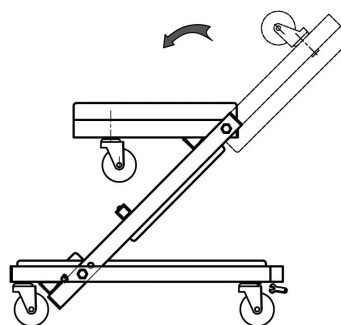

Figure 3 - Adjusting Creeper to seat configuration
1. Unlock the spring loaded Lock Pin by pulling out until disengaged, at the same time rotate the Head Frame and Middle Frame upward and back towards the Rear Frame section until the Lock Pin can engage the Creeper Seat Locking Sleeve (Fig. 3). Ensure Lock Pin is fully engaged.